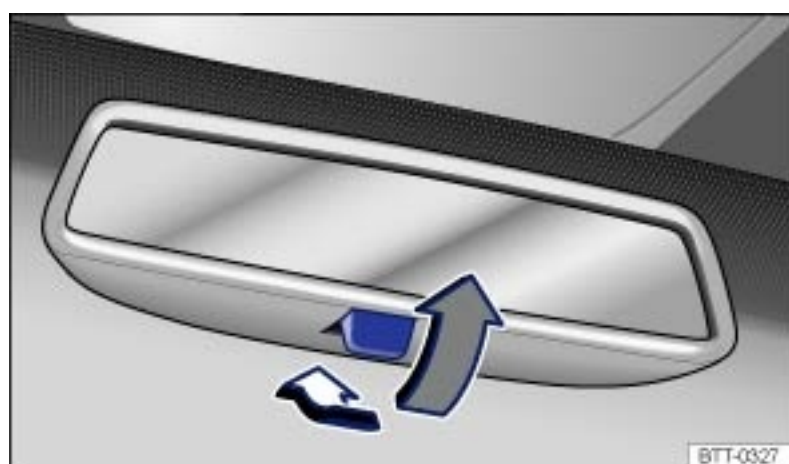

Fig. 95 Manually adjustable inside mirror.
- To adjust to non-glare visibility, move the lever so that it points backward → Fig. 95.